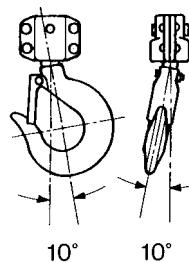

Fig. 1
9. If the vertical angle, at the neck, of the bottom or top hook reaches 10°, replace the hook, (Fig. 1).